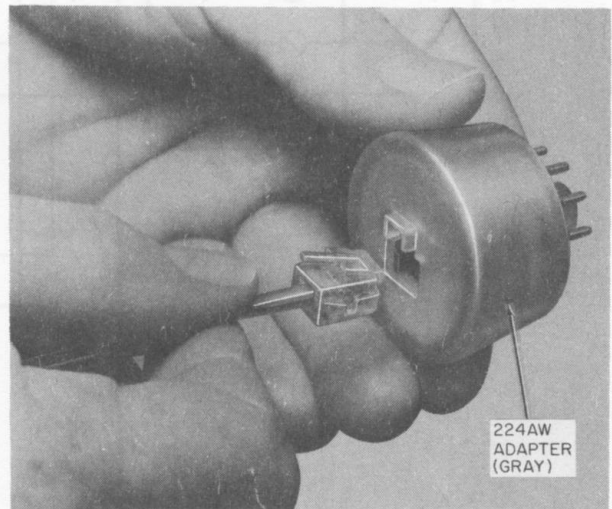

Fig. 3—224AW Adapter
2.03 USOC RJA3X: Used to convert an existing 12-pin jack, such as a 541A or 551A, to a 4-pin modular jack (Fig. 6). A 224AW adapter (Fig. 3) is plugged into the 12-pin jack, and the modular plug on the telephone company- or customer-provided equipment plugs into the adapter. Tip and ring are always connected through to the CPE. A and A1 or other leads will appear in the adapter if wired into the existing jack. Adapter is provided by either the telephone company or the customer.